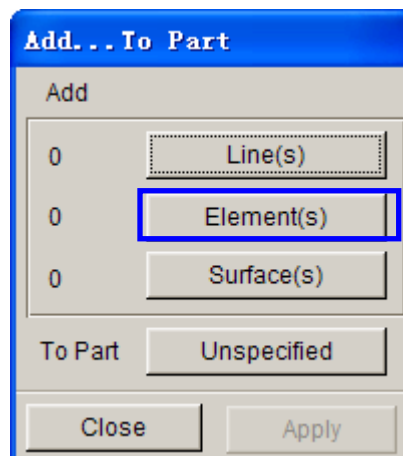
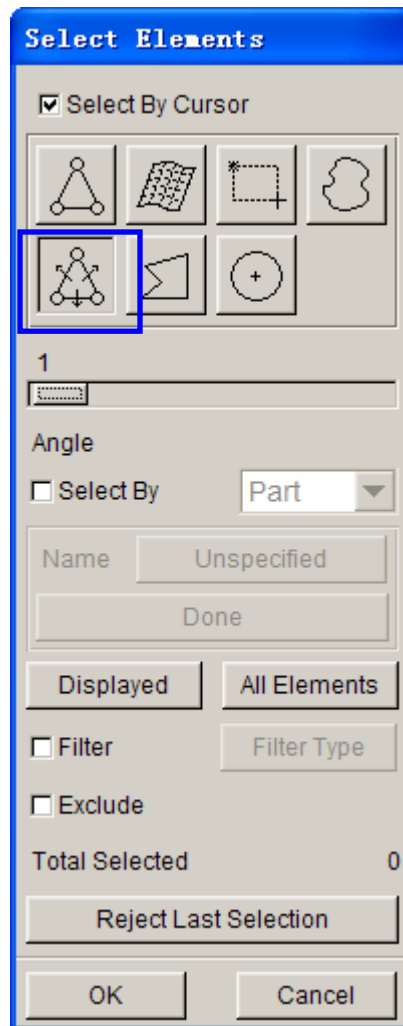

Figure 41: Add...To Part dialog box
Figure 42: Select elements dialog box
6. The **Add...To Part** dialog box shown in Figure 41 is displayed. Click the **Element(s)** button to display the **Select Elements** dialog box shown in Figure 42.
7. The easiest way to select all elements of the ring is to switch the view to the **YX plane** using the **Top View** icon on the **Icon bar**. Then, select the **Spread** icon shown in Figure 42, following by pressing and holding left mouse button on the **Angle Slider**. Move your mouse to drag the slider. Since the ring surface is flat, you may set **1°** as the spread angle.